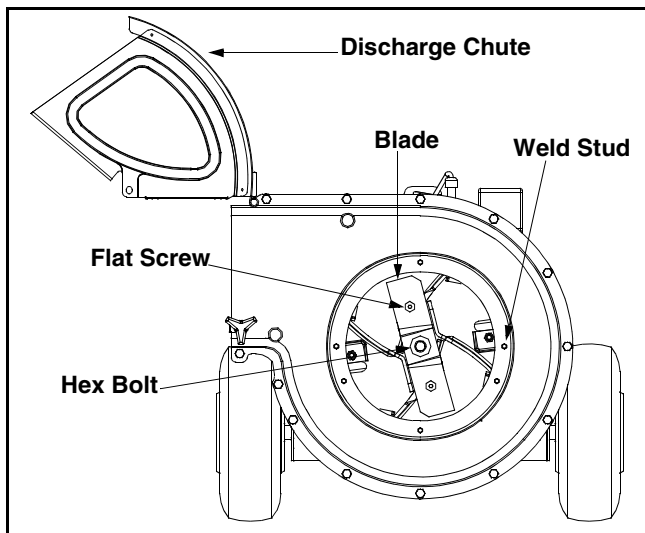

Figure 10
- Remove the two outside screws on the blade, using a 3/16" allen wrench and a 1/2" wrench. See Figure 10.